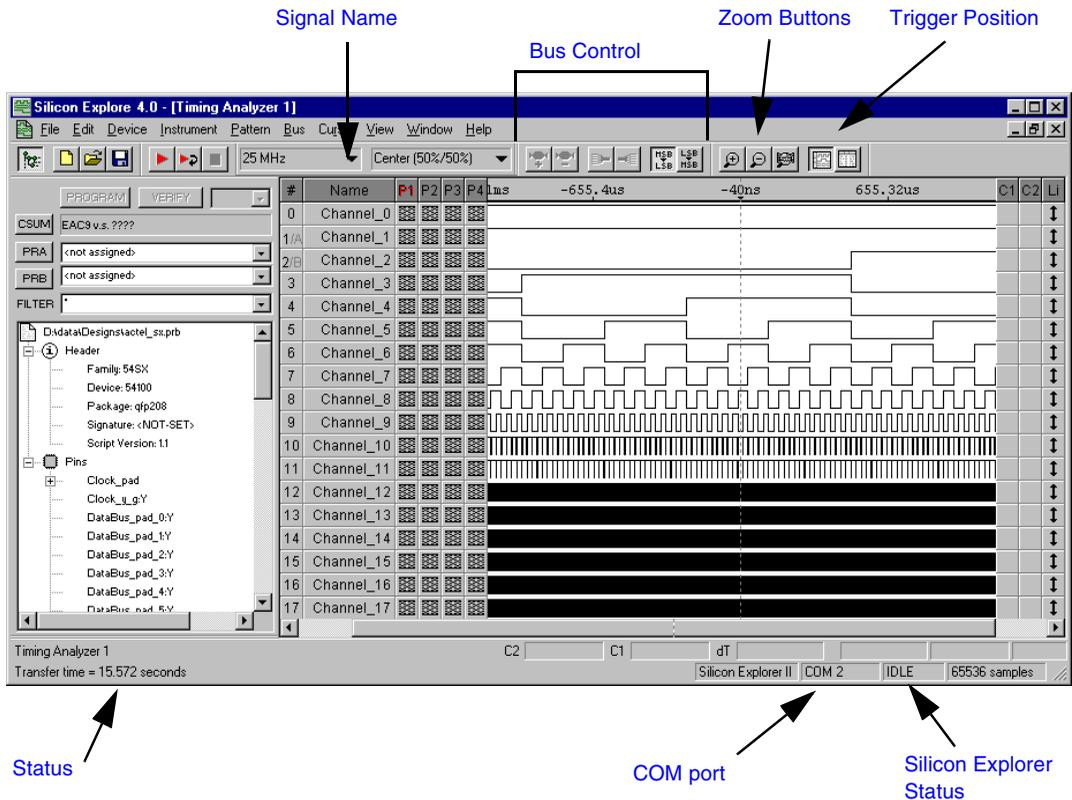

Figure 2-1. Silicon Explorer Window
- 1. Select the desired signal from the tree by clicking the net name (see Figure 2-1).** You can use the filter box to search nets quickly. Use multiple wildcard characters (“\*”) to restrict your search.